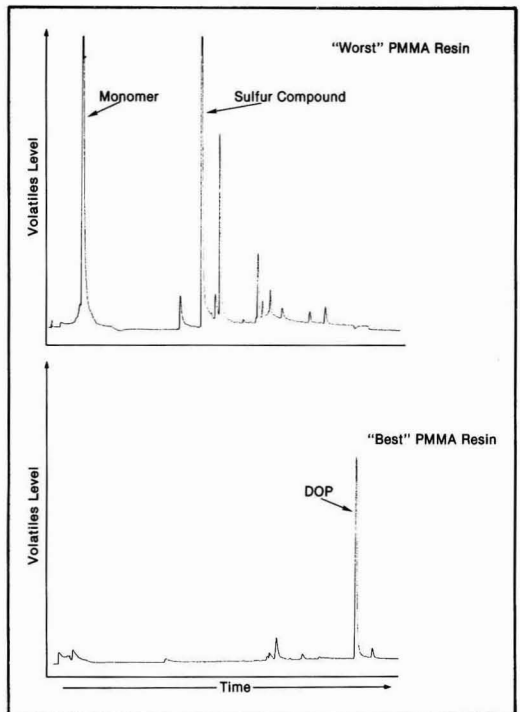

Figure 7—Gas chromatographic analyses of resin volatiles in "best" and "worst" materials
The search for the source of the sulfur ended with the resin. The tendency to produce defects varied with resins from different manufacturers. Ultimately, the amount of low molecular weight materials volatile under molding conditions and the sulfur content of the resins was correlated with the quantity of defects produced. Gas chromatographic (GC) analyses of the volatiles entrained in a helium flow while heating the "best" and "worst" resin pellets at 215°C for 15 min are shown in *Figure 7*. While the presence of dioctyl phthalate (DOP) in the "best" resin was initially suspicious, adding DOP to the "worst" resin did not make its molding performance comparable to the "best" resin. GC-mass spectrometry (MS) confirmed that a major volatile component in the "worst" resin was a sulfur compound. "Bulk" analyses by X-ray fluorescence (XRF) and combustion showed the "best" resin had only 572 ppm sulfur while the "worst" had 728 ppm, or 27% more. Furthermore, the sulfur contents of the polymer after dissolution in methylene chloride and subsequent precipitation by methanol were 445 ppm and 354 ppm for the "best" and the "worst", respectively. Hence the "worst" resin had about 50% of its sulfur content in the soluble low molecular fraction while